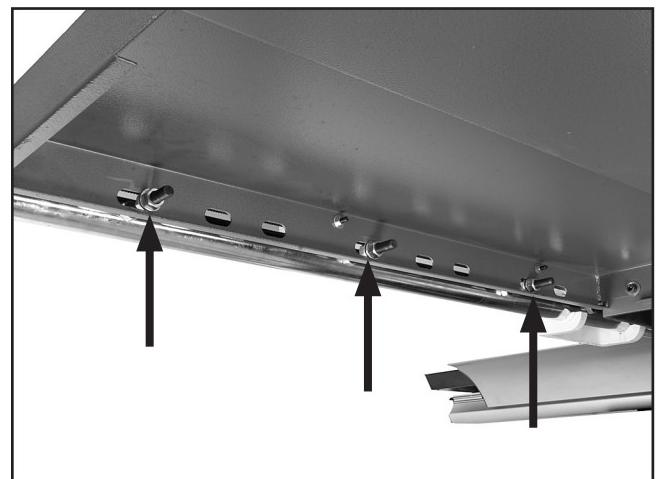

Figure 31. Rip fence rail adjustment nuts.
14. Tighten all of the nuts securing the rail against the table (see **Figure 31**) and tighten the outside nuts against the adjusting nuts.